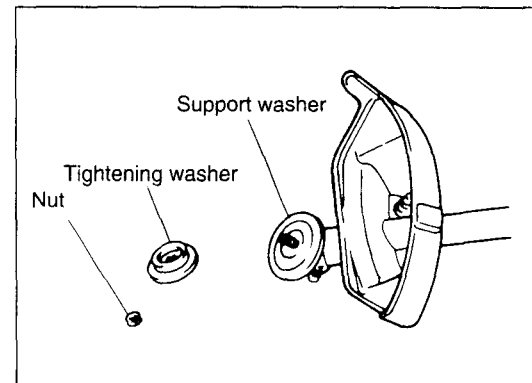

Fig. 3
3. Using the socket wrench, remove the left-handed nut (by turning it clockwise). Also remove the tightening washer (Fig. 3).